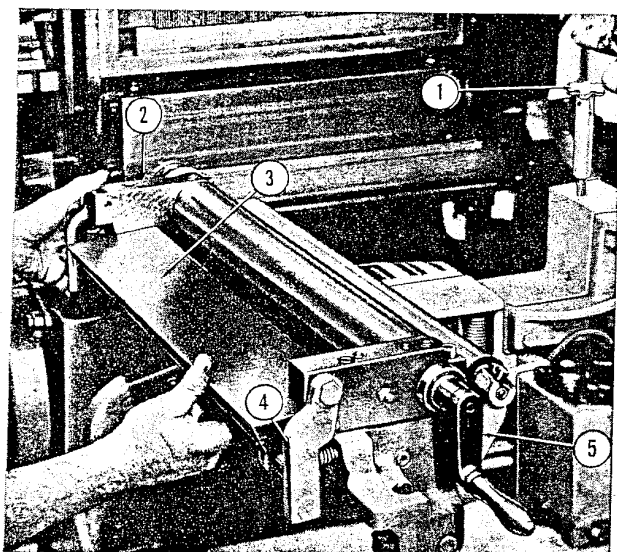

Figure 29—Closing Fountain Blade
(1) **HOW TO OPEN AND ADJUST FOUNTAIN BLADE.**—The ink fountain may be swung away from the press for facilitating wash-ups and change-overs. To swing fountain out of operating position, swing feeder to open position, loosen fountain lock wheel (1) permitting fountain (2) to be swung away from the press. (See figure 29).
The fountain is equipped with a "drop-blade", (3) figure 29, for facilitating wash-ups. To open the blade, push in fountain latch cam levers, (4) figure 29 and lower blade to open position. To close blade, lift up on blade lifting-edge as shown in figure 29 and latch cam levers securely.
*Note:* When closing blade, do not grasp blade so that fingers are close to fountain roller. Hold blade as shown in figure 29. Failure to comply with this warning may result in injury to the fingers.
blade. When adjusting the fountain screws for uniform ink flow, start at the center and work toward the ends, thereby preventing blade buckling. A crank, (5) figure 29, attachable to either end of the fountain roller, is provided for turning the fountain roller.